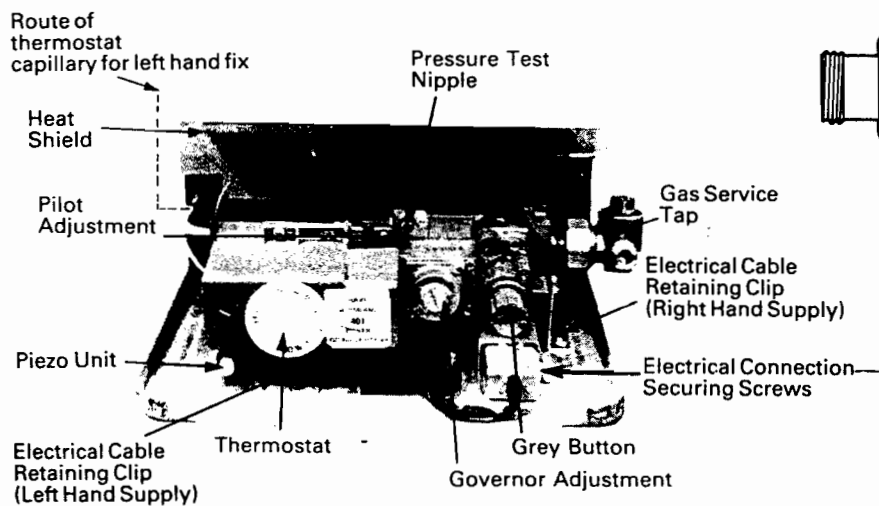

Fig. 7. Boiler Controls
- (e) Route the thermostat capillary under the heat shield and up the left hand side (Fig. 7). The thermostat phial now fits in the pocket at the LEFT HAND SIDE IN THE LOWER SECTION.
9. Hold in the grey button on the gas control valve (Fig. 7).